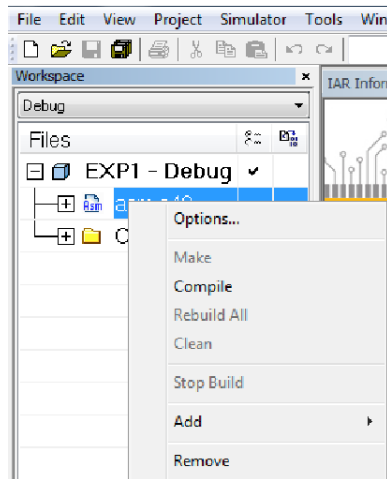

Figure 1.8: Removing asm.s43 from the project tree.
5. In the project tree view right click the 'asm.s43' file and remove it by choosing 'Remove'. You will need to confirm removing the 'asm.s43' file, confirm it and the file will be removed from the project tree view. This is shown in Figure 1.8.